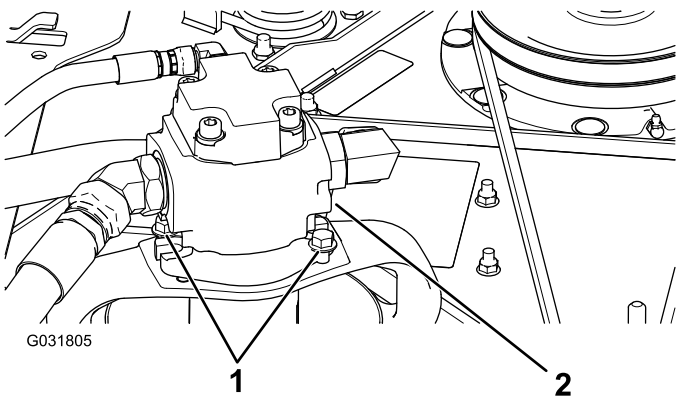

Figure 115
5. Remove the bolts securing the hydraulic motor to the mower deck (Figure 115).
3. Remove the bolts securing the hydraulic motor to the mower deck (Figure 115).